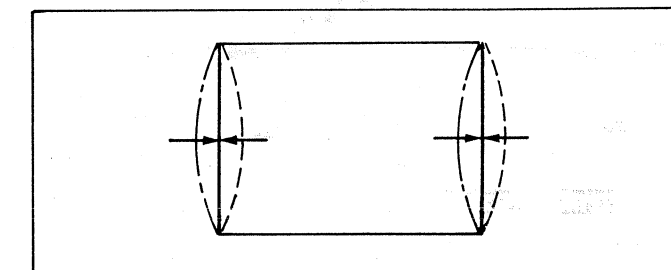

Fig. 22
3. Adjust the R768 (Side Pincushion Control) so that the both of the side vertical lines are straight as shown in Fig. 22.